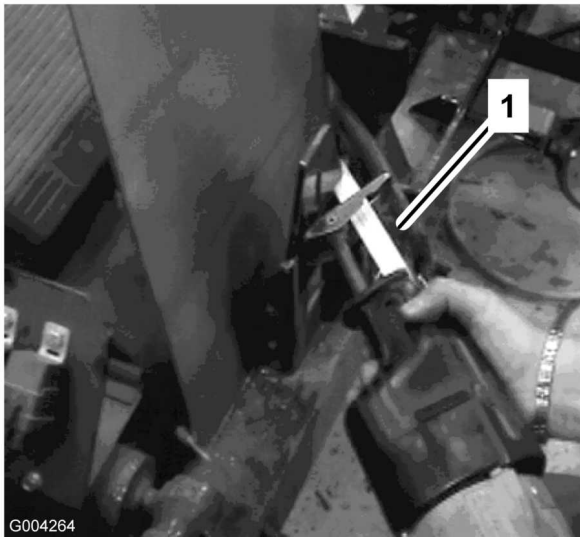

Figure 10
5. Stop cutting the bracket 3/4 of the way through and finish by cutting into the bracket from the opposing side. Cut until the bracket is removed (Figure 10).